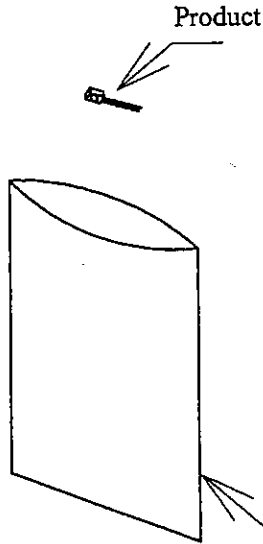

Fig.1
1. Put products of 100pcs. in the antistatic electricity bag. (Fig. 1)